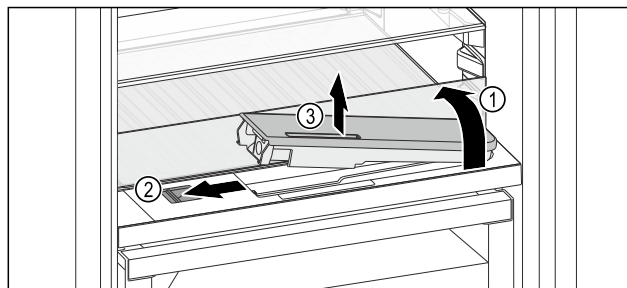

Fig. 158
- Lift the glass panel and fold towards the rear until it clicks into place Fig. 158 (1).
- Slide the slider Fig. 158 (2) to the left.
- Remove the water tank Fig. 158 (3).